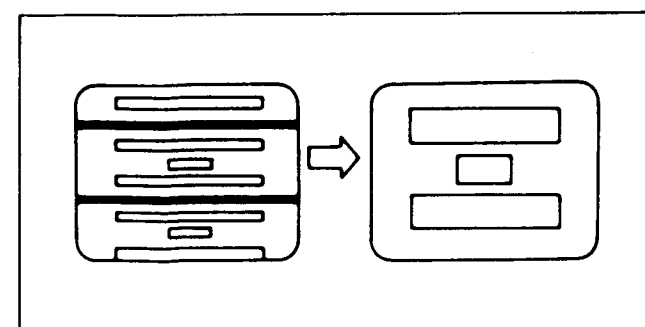

Fig. V2
- (1) Aim the camera at the gray scale chart.
- (2) Adjust the Vertical Size (VR801) so the Vertical Size is correct and the picture does not roll as shown in Fig. V2.